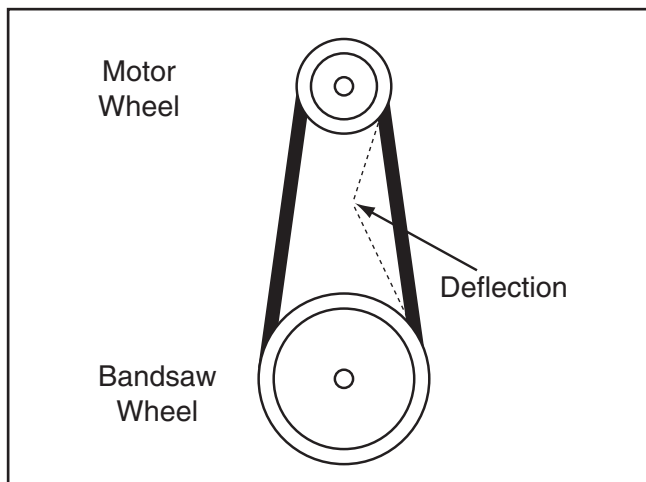

Figure 61. V-belt deflection.
4. Push the center of the V-belts. Note the amount of deflection (**Figure 61**). If deflection is more than $\frac{3}{4}$ ", tension the V-belt.